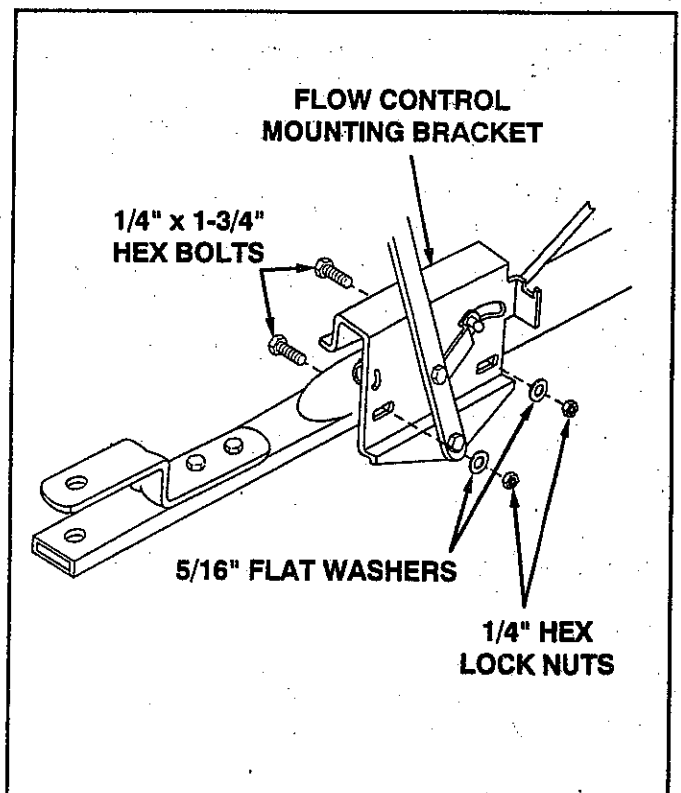

FIGURE 13
19. Assemble the flow control mounting bracket to the hitch tube using two 1/4" x 1-3/4" hex bolts, two 5/16" flat washers and two 1/4" hex lock nuts. See figure 13. **DO NOT TIGHTEN AT THIS TIME.**